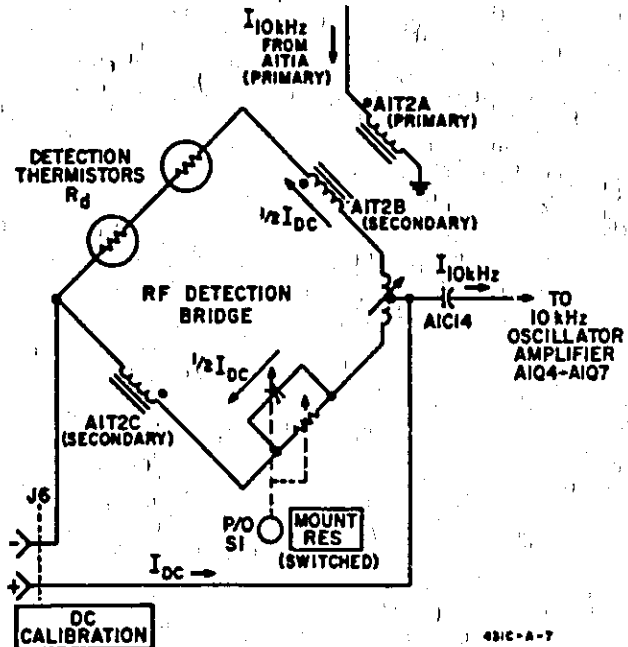

Figure 4-8. DC Calibration and Substitution
**4-32.** A simplified schematic diagram of the DC Substitution and Calibration circuit is shown in Figure 4-8. A block diagram of the auxiliary equipment required to perform DC substitution is presented in Figure 3-9 and discussed in Paragraphs 3-34 through 3-36. An accurately determined DC current,  $I_{DC}$ , is supplied to the DC CALIBRATION terminals on the rear panel and adjusted to allow the RF detection bridge to precisely duplicate the RF power measurement reading. Calculation of DC power from the substituted DC current gives an accurate measure of the unknown RF microwave power.